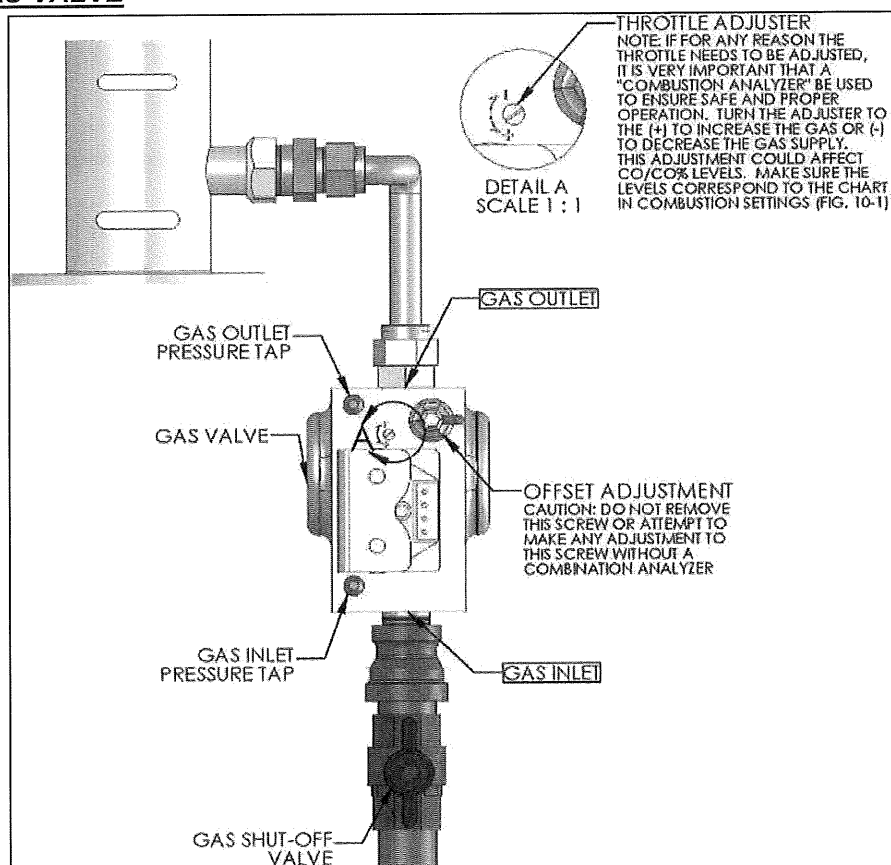

Figure 24 – LP-293-V
2. Loosen the pressure tap with a small screwdriver. Refer to Figure 24 for location.
3. Each unit is equipped with a needle valve that will accept a 5/16 ID hose to connect to a digital manometer or liquid gauge designed to measure incoming pressure from 0-35" w.c. See Figure 24.